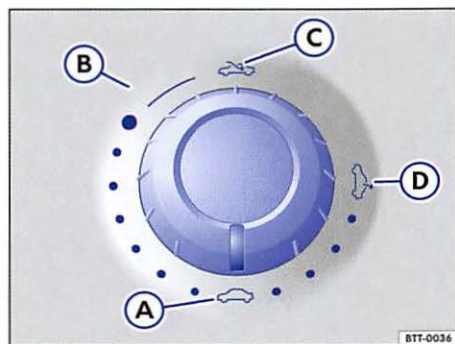

Fig. 27 In the headliner: rotary switch for the power sunroof.
Turn the ⇒ fig. 27 rotary switch to the desired position to set the power sunroof in the following positions:
- Turn the rotary switch to position ⇒ page 51, fig. 27 Ⓐ and pull down the rear part of the switch until the power sunroof closes completely.